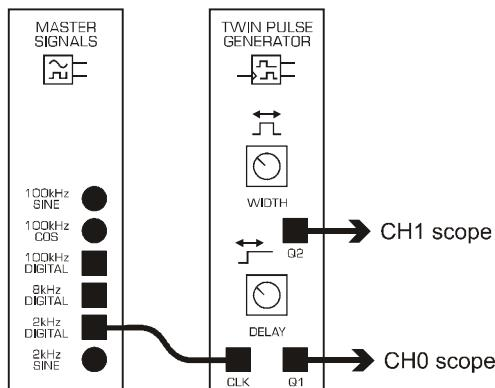

Figure 23: "adjust\_TPG" wiring diagram
1. Use patching cords to wire up DATEx blocks according to the wiring diagram in Figure 23.